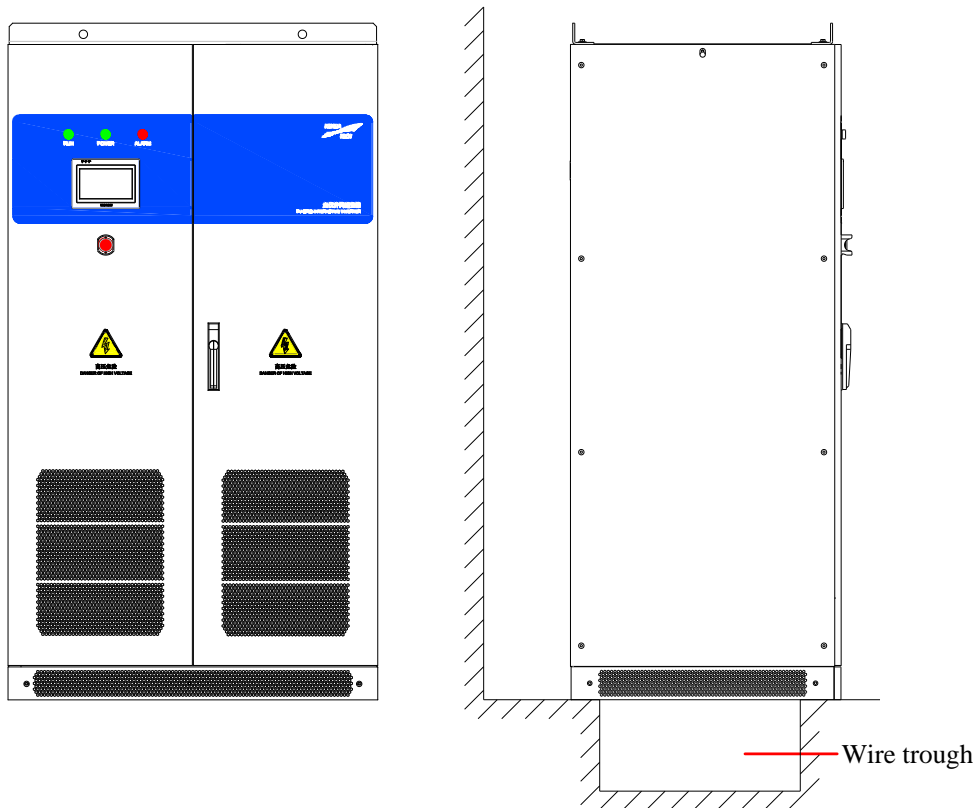

Figure3-1 Wire trough
- The dimension of the inverter is  $1100\text{mm} \times 2000\text{mm} \times 800\text{mm}$  (W×H×D), and the weight is 1000kg. Keep enough space to install the inverter. So, the foundation must have a certain load bearing capacity to support the inverter and enough space to place the inverter. Please put the inverter on the foundation on the basis of the inverter's size, as shown in Figure3-1.